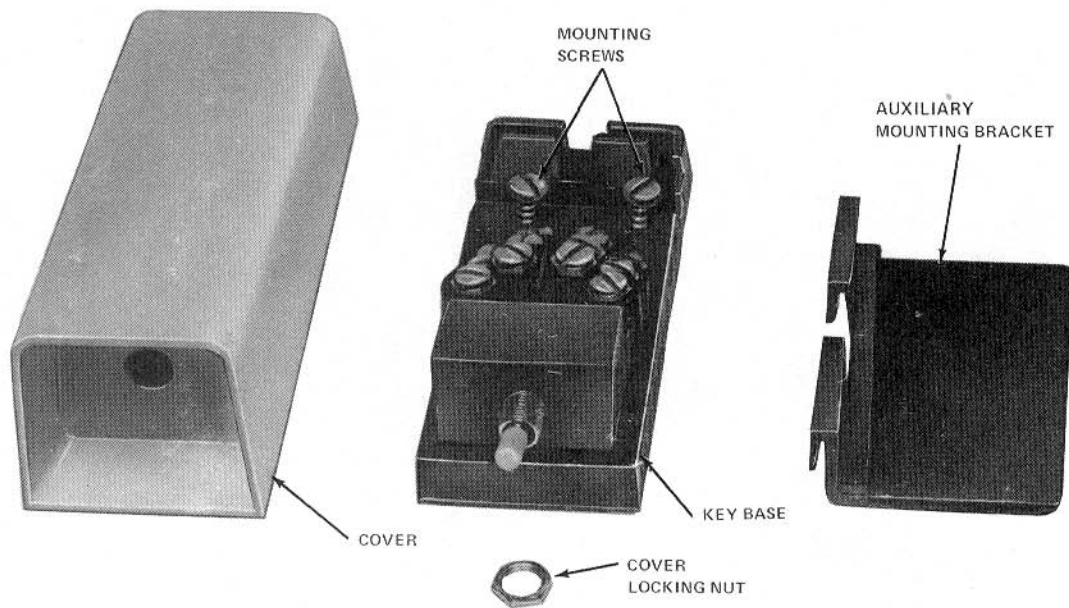

Fig. 9—KS-21776 Type Key With Screw Terminals
- (b) The other type (Fig. 9) consists of.
- (1) Toggle switch (two or four pole).
- (2) Screw terminals (6 or 12).
- (3) Auxiliary mounting bracket.
- (4) Pan head mounting screws (2).
- (5) Double-sided adhesive tape (fastened to auxiliary mounting bracket).